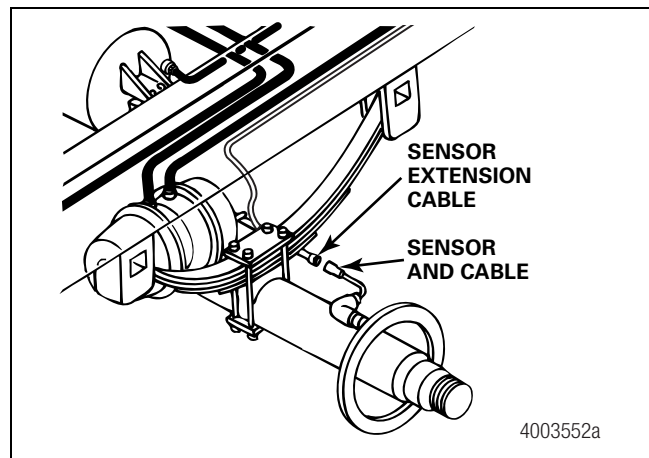

Figure 6
2. Connect the sensor and cables on the prepped axles to the sensor extension cables. Figure 6.